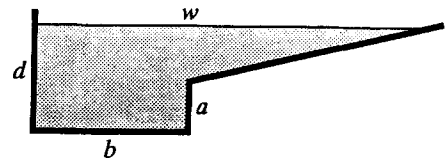

Figure X10.3.6
10.3.6 For the channel cross section of Fig. X10.3.6,  $a = 1 \text{ m}$ ,  $b = 3 \text{ m}$ ,  $d = 2 \text{ m}$ ,  $w = 8 \text{ m}$ , and  $n = 0.015$ . What bed slope is required so that the flow will be  $16 \text{ m}^3/\text{s}$  when the depth of flow is  $1.50 \text{ m}$ ?